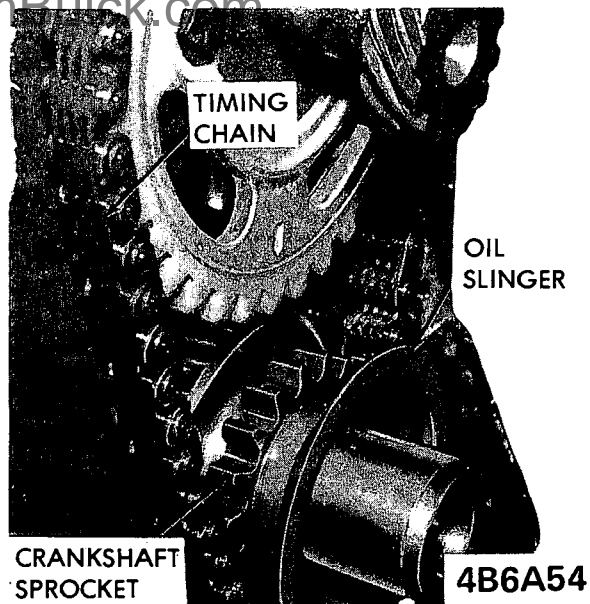

Figure 6A-101 - Oil Slinger Installation
4. Assemble slinger on crankshaft with I.D. against sprocket (concave side toward front of engine). See Figure 6A-101.
5. Slide fuel pump eccentric on camshaft with oil groove out board of keyway towards front of engine. See Figure 6A-99.
6. Install distributor drive gear. See Figure 6A-99.
2. Turn camshaft so with sprocket temporarily installed, timing mark is straight down. See Figure 6A-100. Remove sprocket.
3. Assemble timing chain on sprockets and slide the sprocket and chain assembly on the shafts with the timing marks in their closest together position and in line with the sprocket hubs. See Figure 6A-100.